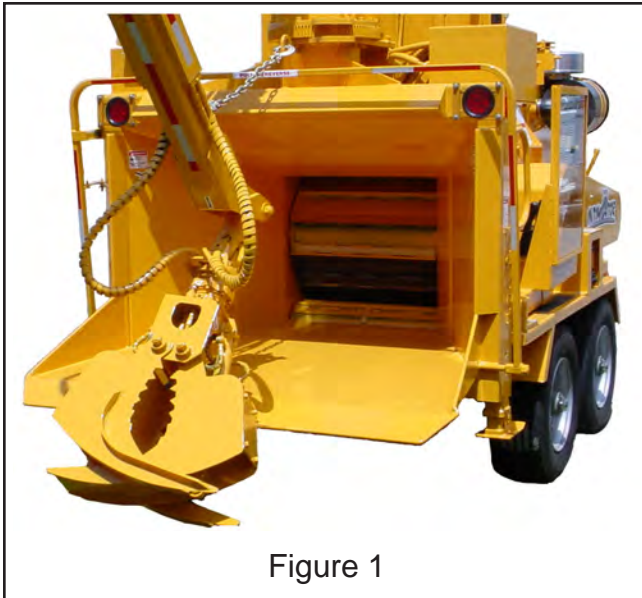
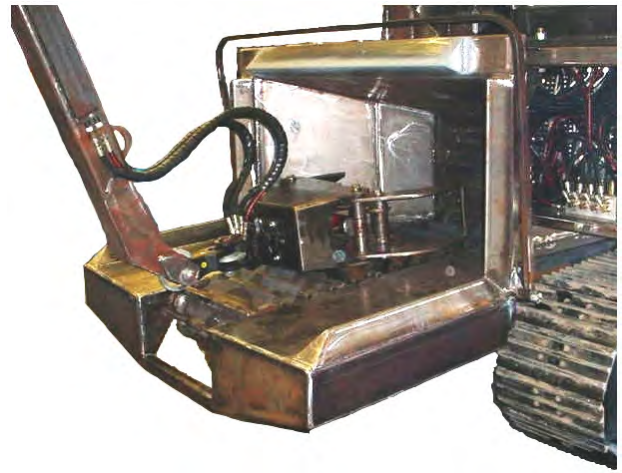

Figure 1
Figure 2
- 4) Tuck grapple onto infeed hopper as shown in Figure 1 to help prevent damage to the hydraulic hoses and fittings. If the machine is equipped with a conveyor option, tuck grapple onto infeed hopper as shown in Figure 2. **Make sure the fittings and hoses are not in a pinched or wear position for transportation.**
- 5) Securely attach transport chain to the jib boom as shown in Figure 1.